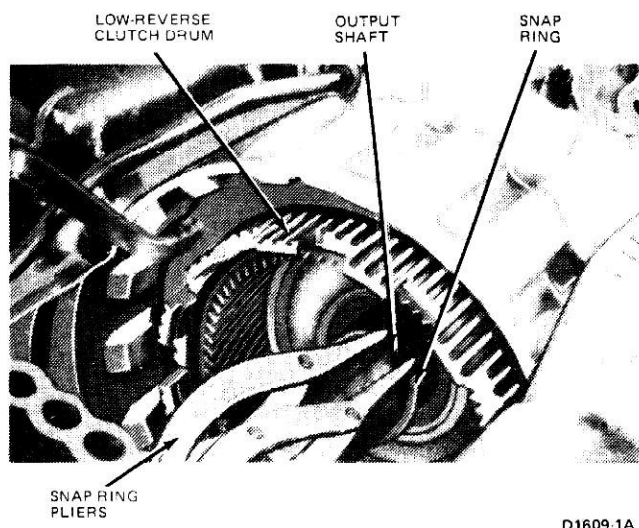

FIG. 17 Removing and Installing Reverse Ring Gear Hub Snap Ring
15. Remove the snap ring (Fig. 17) that secures the reverse ring gear and hub on the output shaft. Slide the ring gear and hub off the shaft.